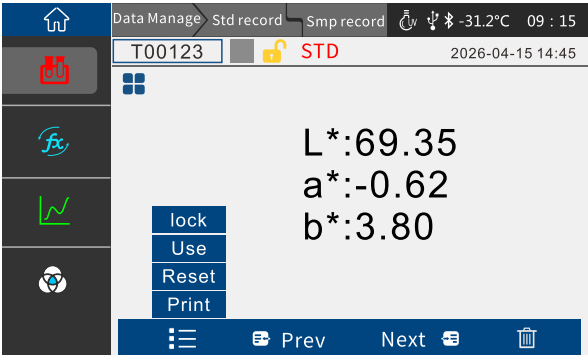

Figure 17 Sample Recording Interface
- 5, Click " ≡ " , select "Print" in the pop-up menu and click "Confirm" to start printing the sample chromaticity data, as shown in Figure 17 :